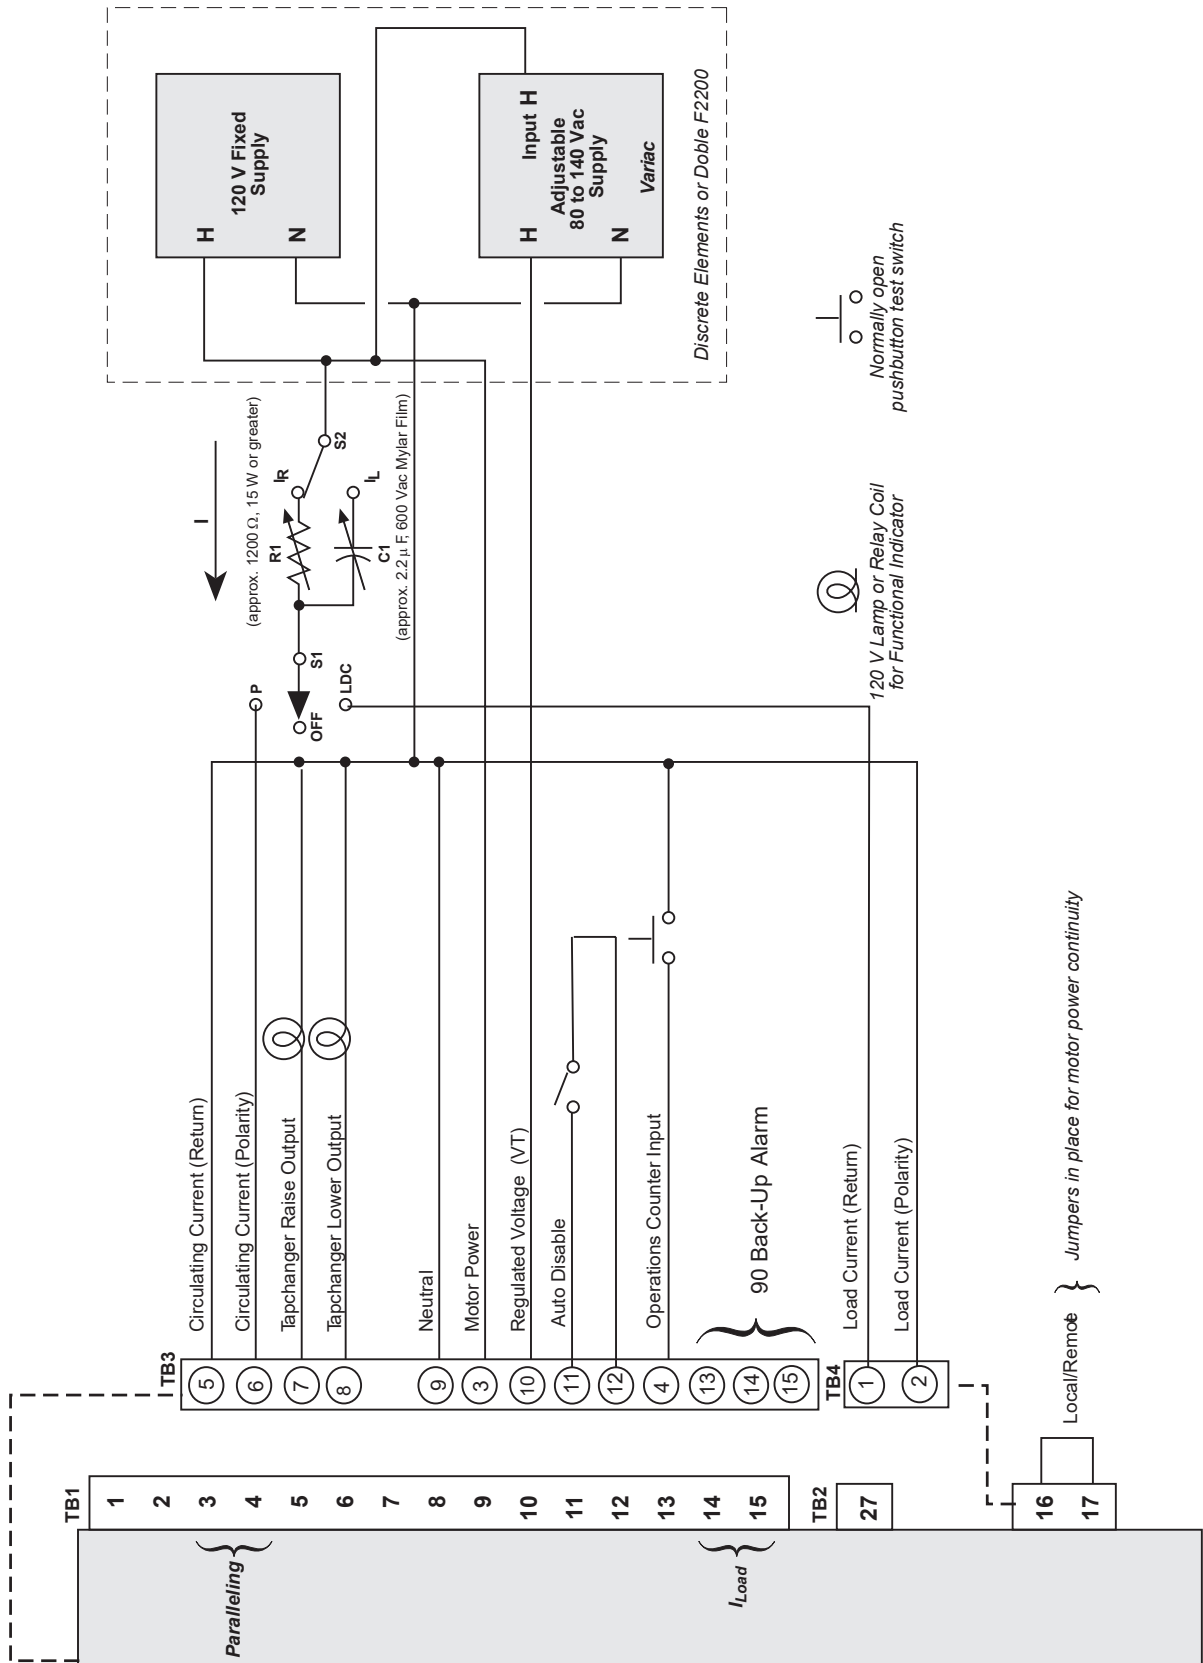

Figure 7 M-2148 Test Procedure External Connection
1. Make the electrical connections as shown in Figure 7.